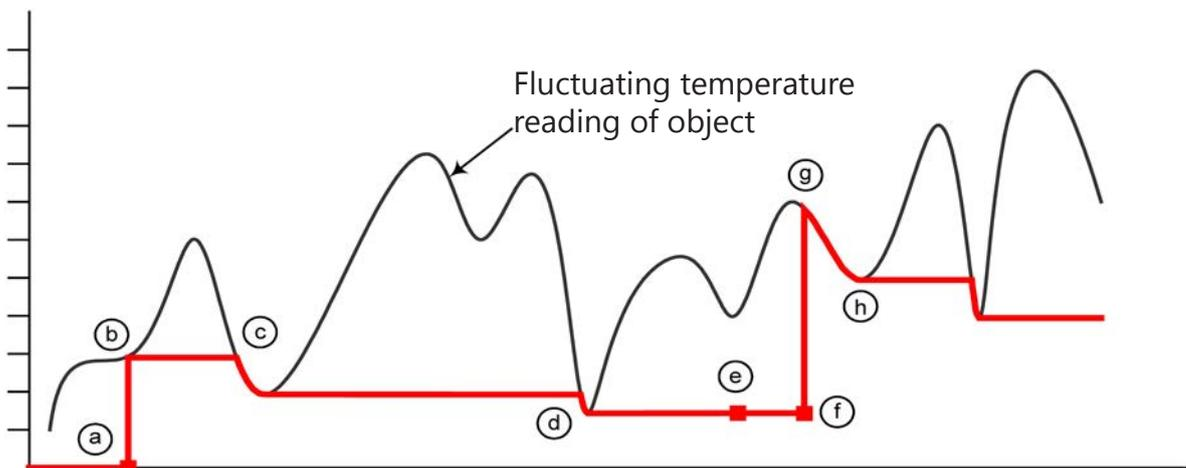

Fig. 7-4 Graphical representation of typical **valley** temperature measurement
**Valley** temperature measurement is the inverse of Peak temperature measurement, in that it allows you to monitor the lowest temperature value rather than the highest. Temperature measurement starts when the trigger is pressed in and continues until the trigger is released (See Fig. 7-4).